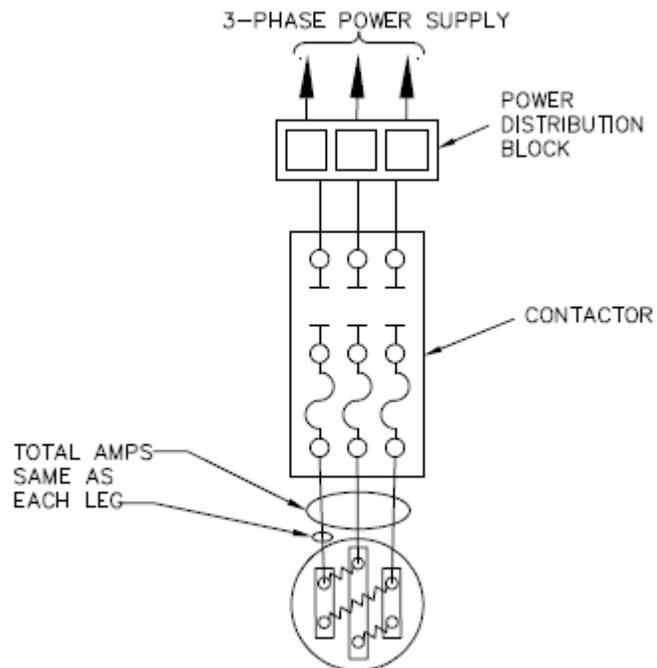

Figure 4-5: Typical Three Phase Wiring
6. Check for proper amperage with ammeter on power circuit. Amperage should not vary more than 5%, when under full load, from amperage shown on data plate. See *Table 2 on Figure 4-5*. If amperage exceeds these limits, immediately turn off main manual disconnect and refer to Section 8.1.